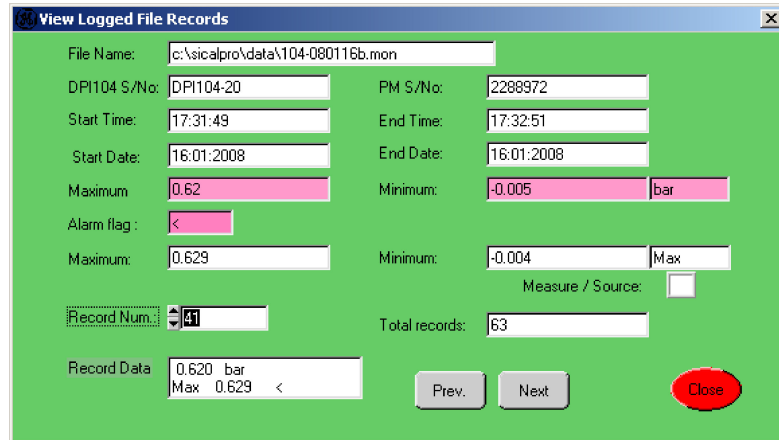

Figure 5-4: Example display - Text view
- *View (Text)* shows the specified instrument file in a text format - one record at a time (See Figure 5-4).